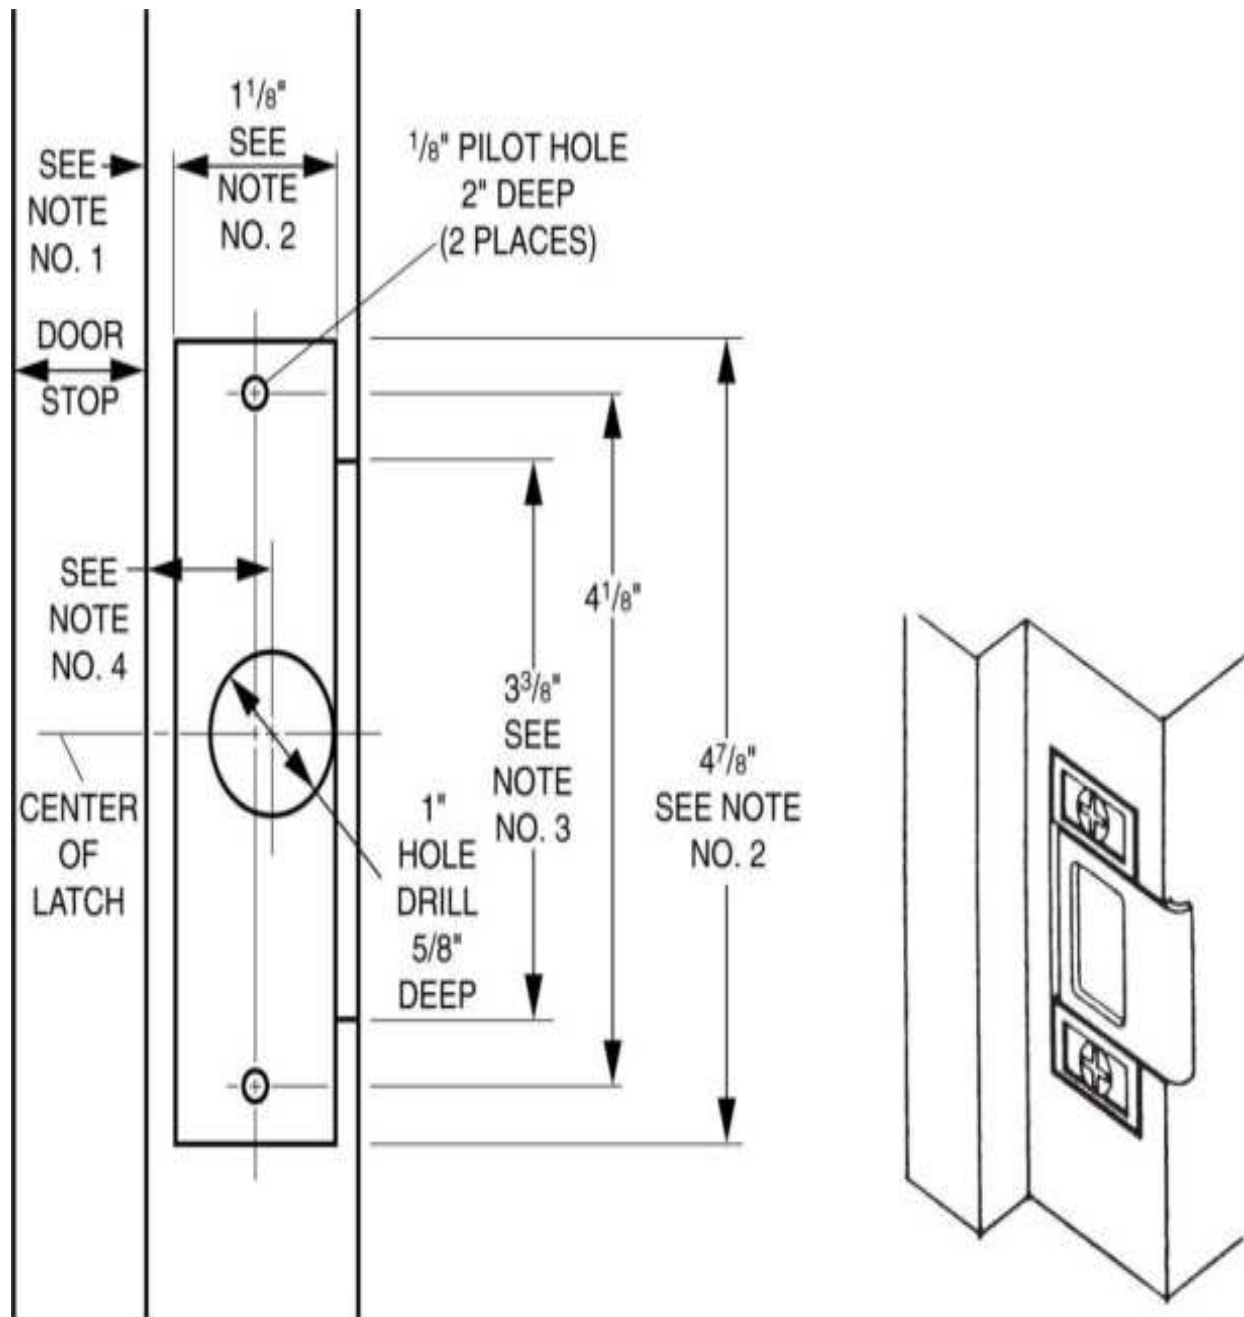

**Figure 13.56** Jamb preparation and completed installation of Model 452 for a 1 $\frac{3}{4}$ -inch door. (M.A.G. Engineering and Mfg., Inc.)
1. For  $1\frac{3}{4}$ -inch door, start the cutout  $\frac{3}{8}$  inch away from the door stop; for  $1\frac{3}{8}$ -inch door, start cutout on the edge of door stop (Fig. 13.56 ).